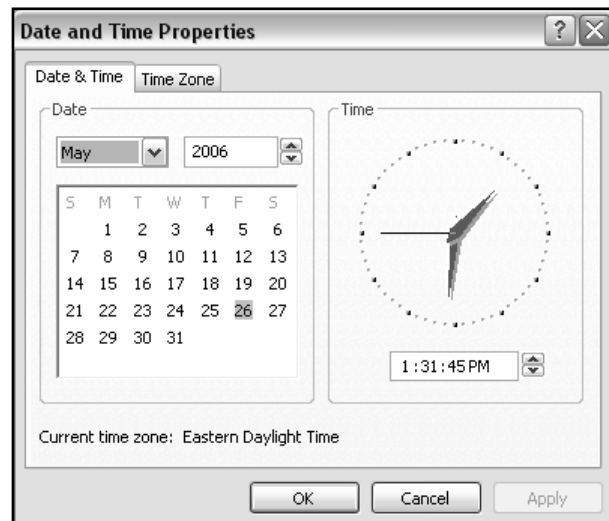

Figure 1
4. From the menu select *Adjust Date/Time*. See Figure 1.